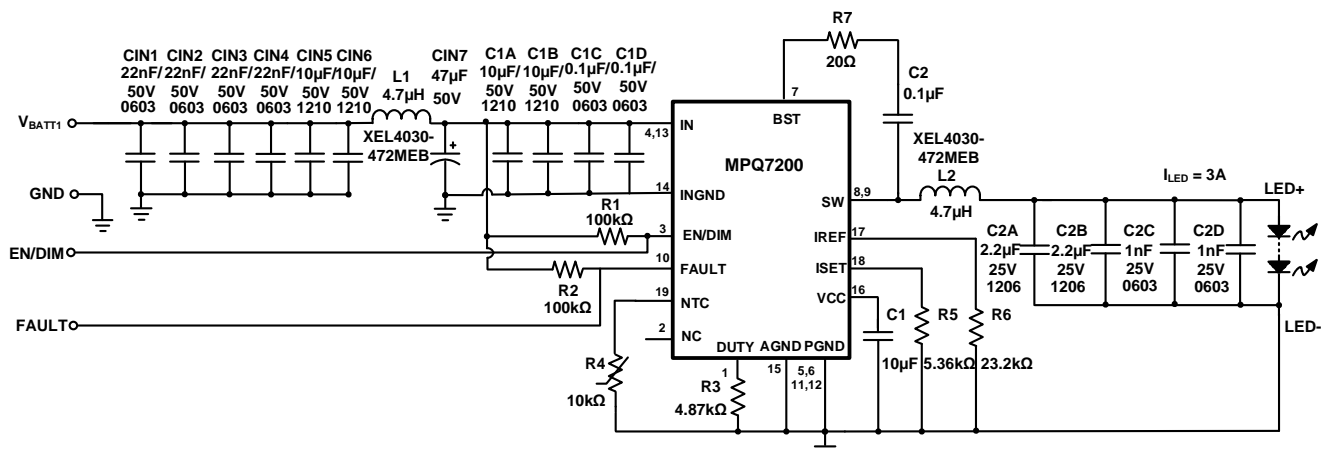

Figure 9: $I_{LED} = 3A$, Buck Application Circuit with No Two-Step Dimming
- 12) The recommended layout is based on Figure 9.